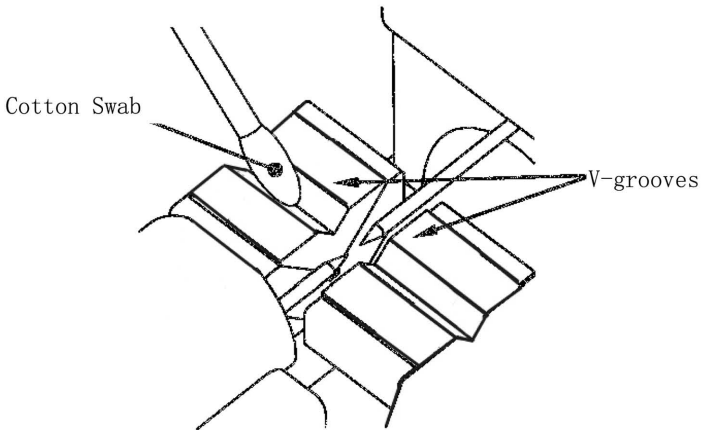

Fig.4—1. Cleaning V-grooves with Cotton Swab
- (1) Open the wind protector and fiber clamps.
- (2) Clean the bottom of the V-groove with an alcohol-impregnated thin cotton swab as shown in Fig. 4—1. Remove excess alcohol from the V-groove with a clean dry swab.